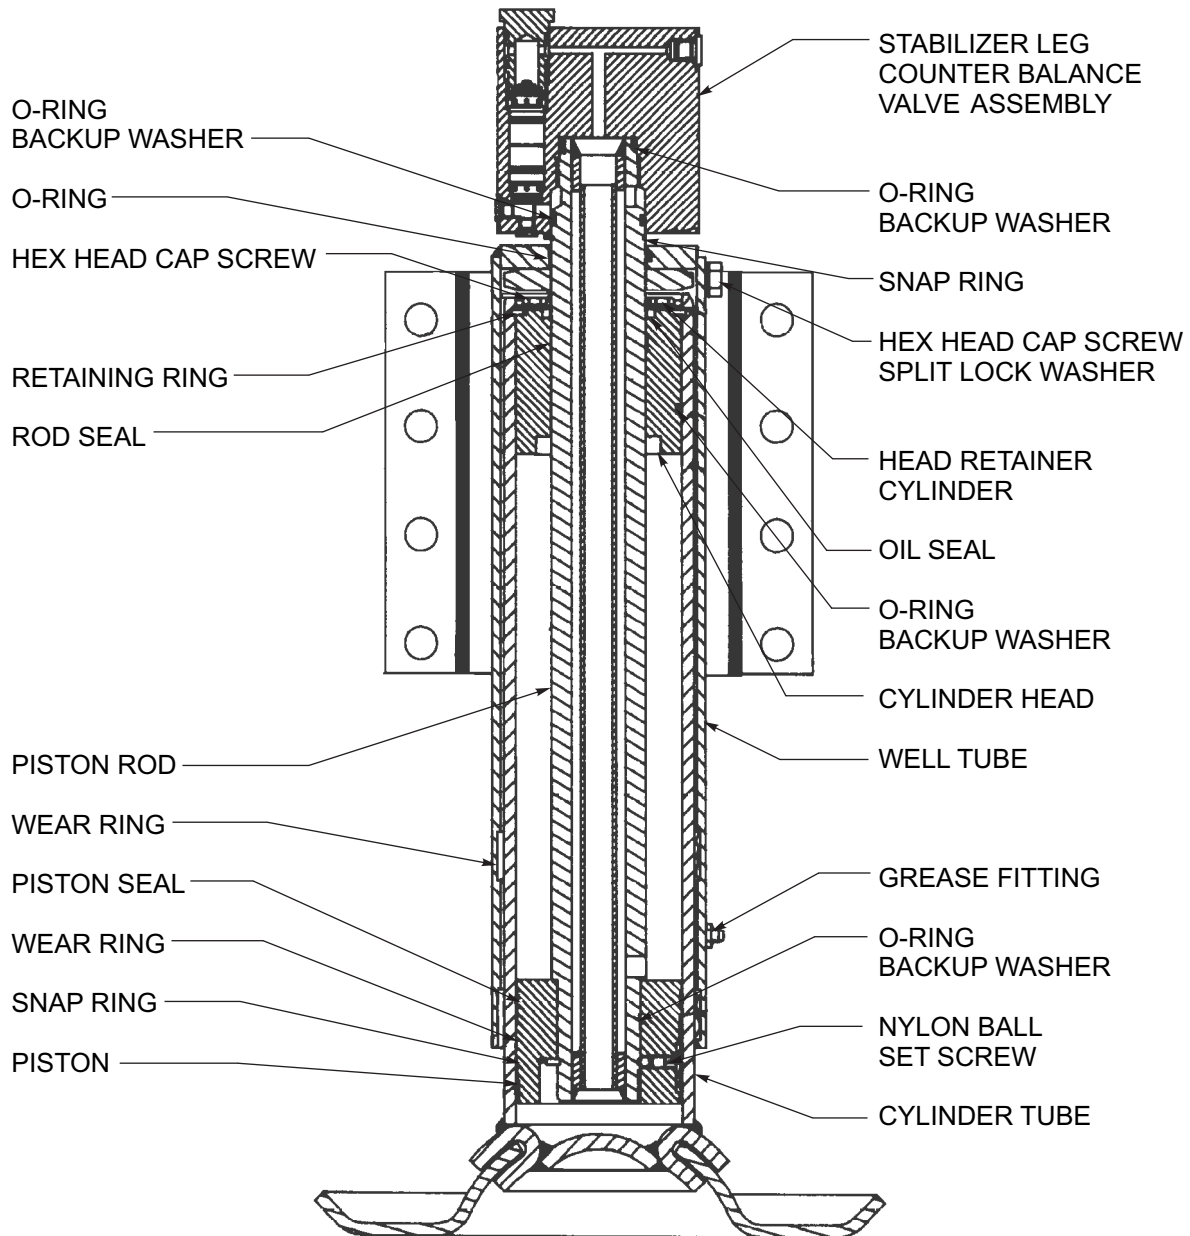

Figure 4-20: Dock Leveler Leg Assembly
2. Remove the lock valve from the leg by screwing counter clockwise (See Figure 4-20.) If you need only to repair the lock valve, it may be removed from leg while still on trailer if you have a minimum of 2" clearance above.